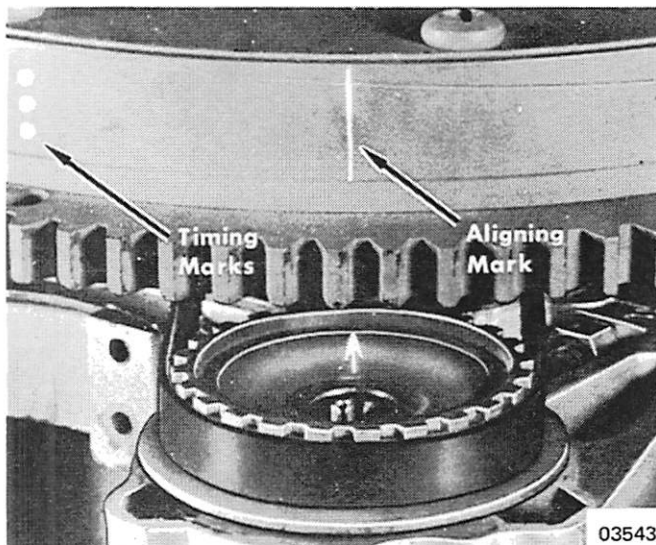

Figure 2. Alignment and Timing Marks on Flywheel and Pulley - Merc 1100SS-950SS
1. Merc 1100SS and 950SS: Rotate flywheel until "alignment mark" (a straight white line stamped on side surface of flywheel) is aligned with arrow on distributor pulley (not plate). (Figure 2)